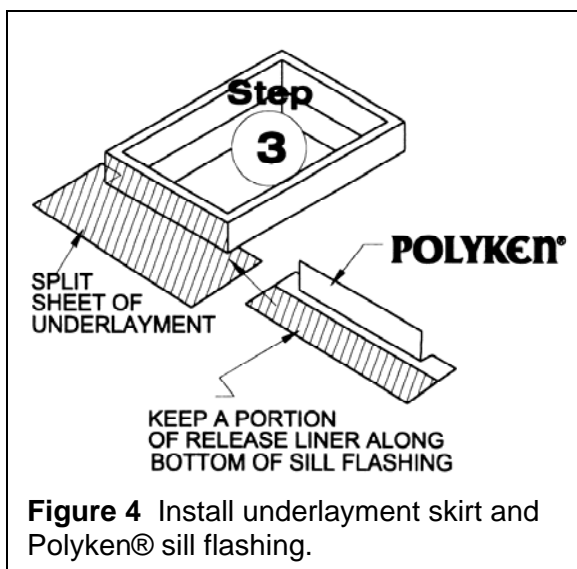

Figure 4 Install underlayment skirt and Polyken® sill flashing.
Step 3. Install a skirt of roof underlayment along the bottom of the skylight opening. The remaining roof underlayment will be integrated with this skirt in Step 8. (see Figure 4). Apply a strip of Polyken® or Nashua® flashing along the bottom (sill) of the skylight curb, lapping up the vertical leg of curb and across the skirt of roof underlayment. Extend the ends of sill flashing tape beyond the curb 6" minimum. Roll the strip flat. Caution: Do not tear Polyken® or Nashua® in angle (see